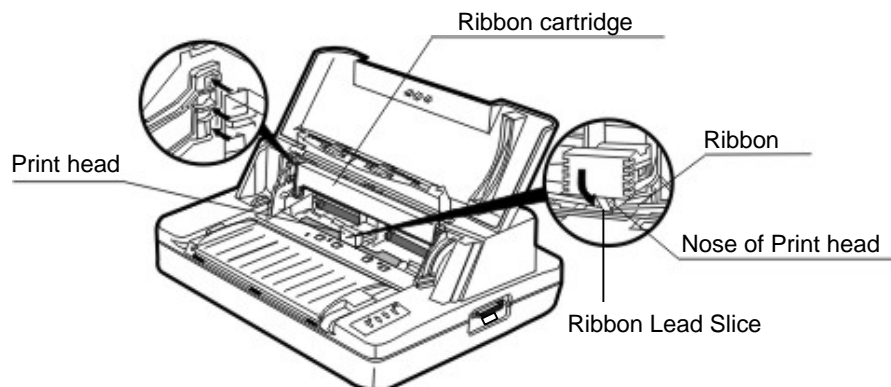

Figure 2-7 Installing the ribbon cassette
- 6 To install the ribbon cartridge, hold it with both hands, with the ribbon facing down as shown in Figure 2-7.